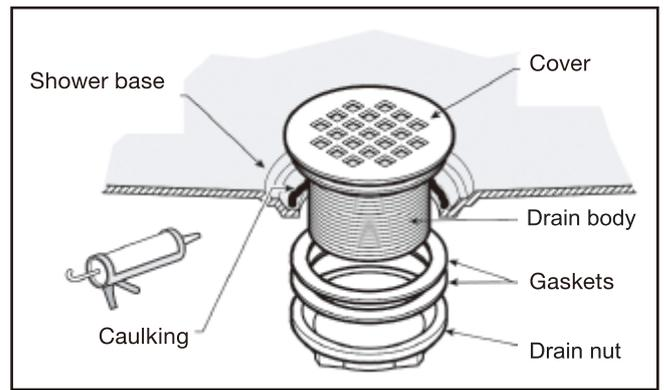

Fig. 3
- Install the shower drain (NOT INCLUDED) according to the drain installation manual (supplied with the drain). (Fig 3)